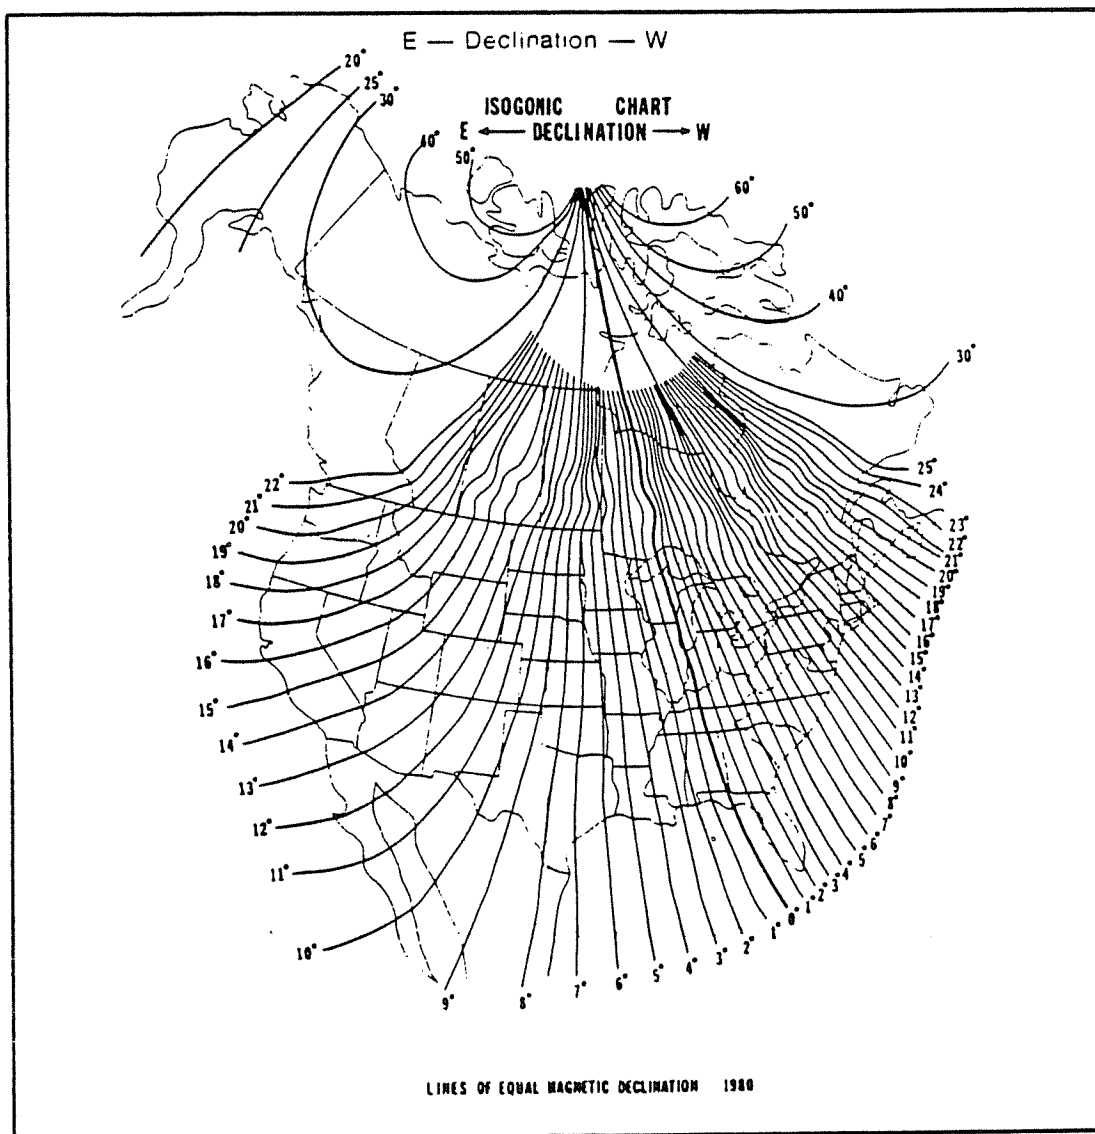

Figure 1
1. First, determine the Magnetic Declination in your area using the Isogonic Chart (Figure 1).